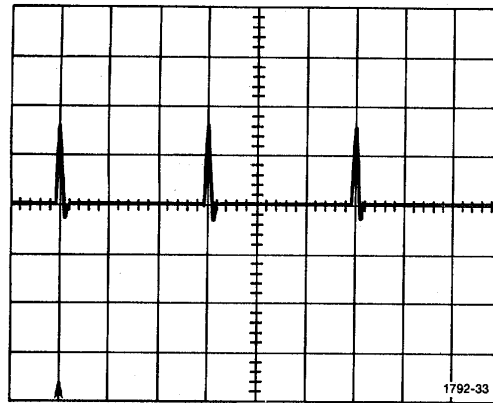

Figure 4-9. Time Marks Aligned (Metric).
71. (a). Obtain the waveform on the 1502 crt as shown in Fig. 4-9. Use the variable pulse amplitude control of the PG 502 and the DISTANCE control of the 1502 to align the time marks with the crt graticule lines.
72. (a). Adjust-R1435 (FT/DIV CAL) to align the time marks with every third graticule line (see Fig. 4-9).